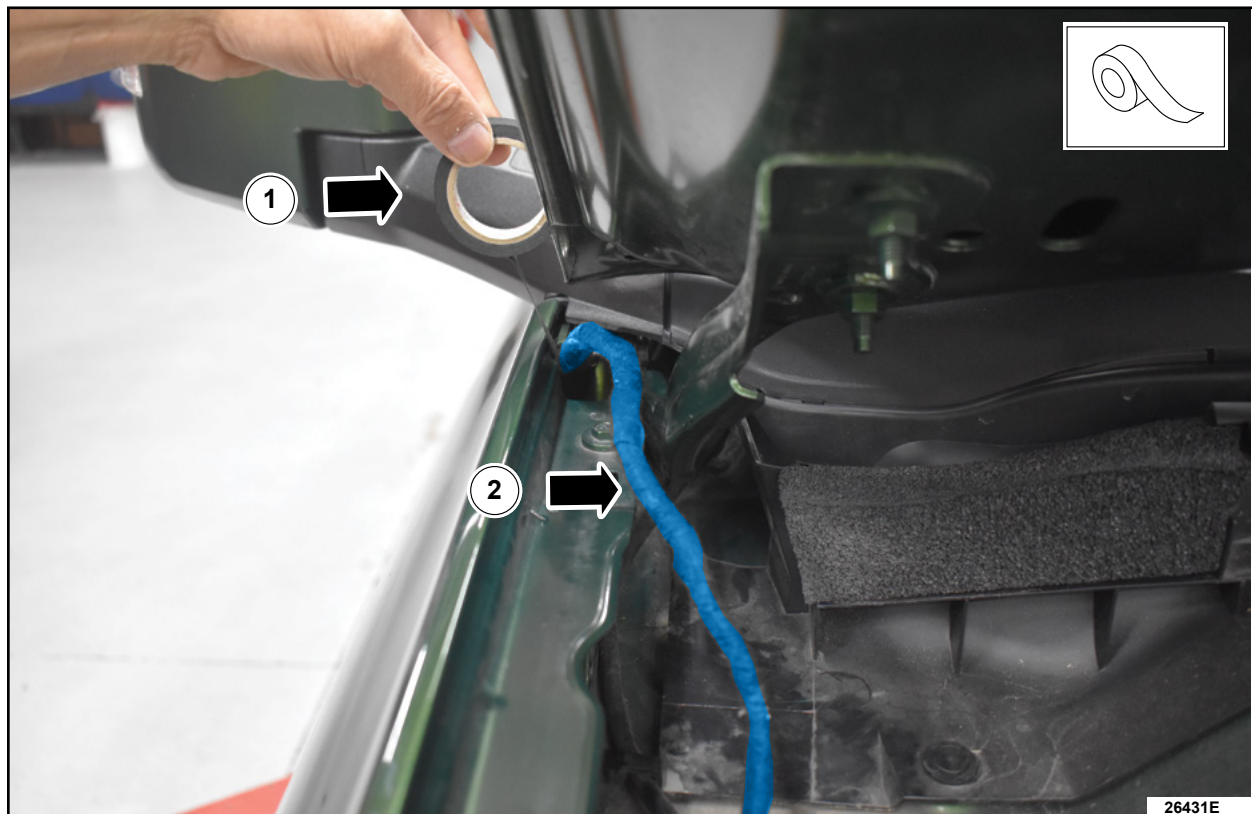

FIGURE 5
7. Using the Coroplast® tape, wrap the exposed area of the harness from Step 4 all the way back to the pigtail (retainer 2 from Figure 3). Make sure to fully cover the wires and that there will be enough clearance to put the wire harness back in between the fender and the hood hinge. See Figure 5.